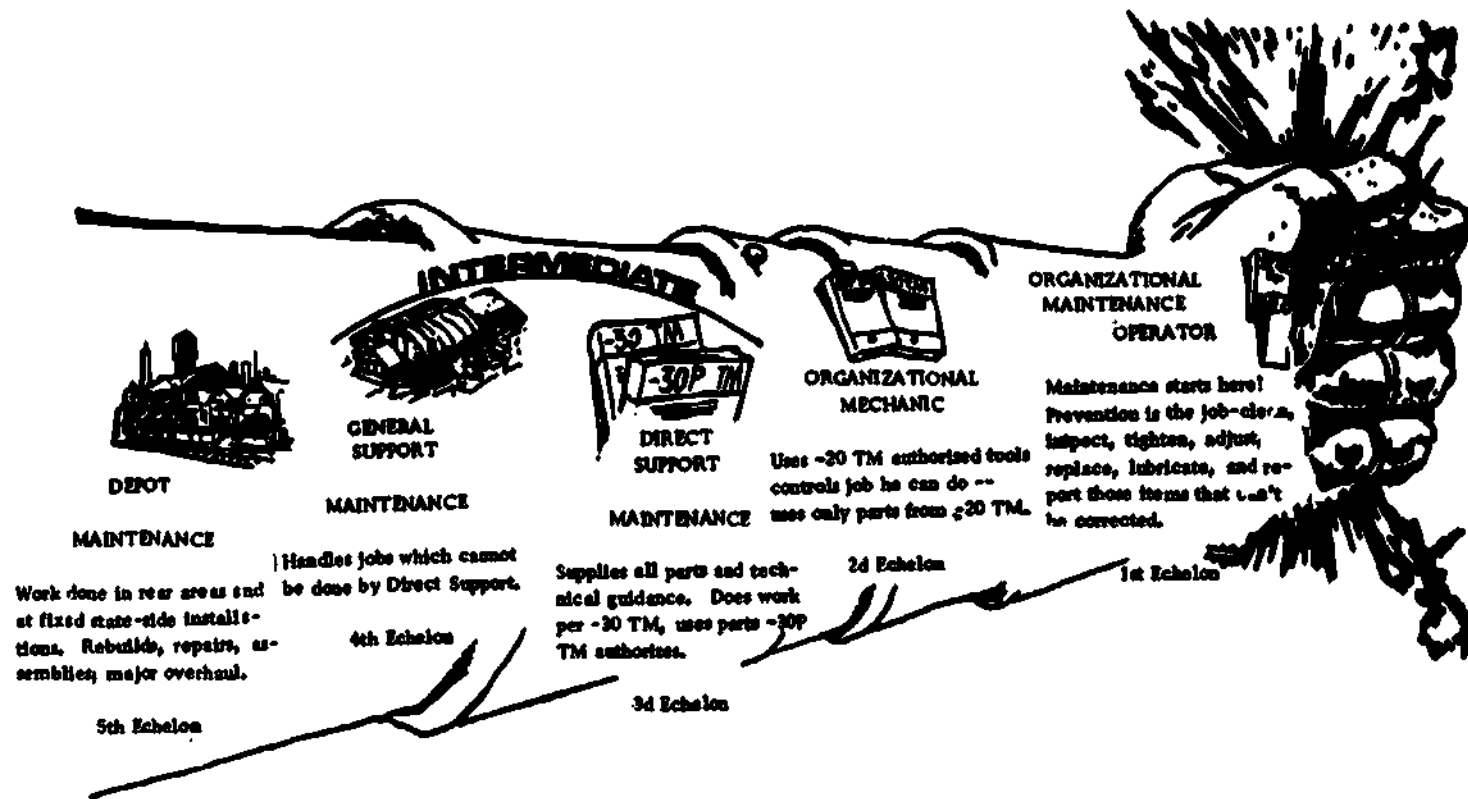

Fig 1-1. Echelons of maintenance.
e. Fifth echelon. This is maintenance that is performed which requires major overhaul or complete rebuild of major items, assemblies, and parts. This echelon uses the assembly line method wherever possible, and equipment repaired is used to support supply stocks. Fifth echelon is the highest echelon in the maintenance system. Now that we have discussed the categories and echelons, there should not be any doubt which category and which echelon you, the operator, fit into. Ask yourself which category and echelon you would be a part of and then look at figure 1-1 to see if you are right.